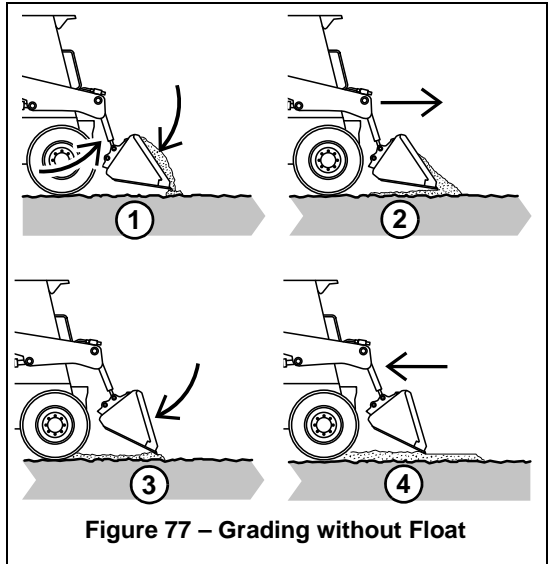

Figure 77 – Grading without Float
1. (Figure 77) Raise the bucket slightly and tilt it forward.